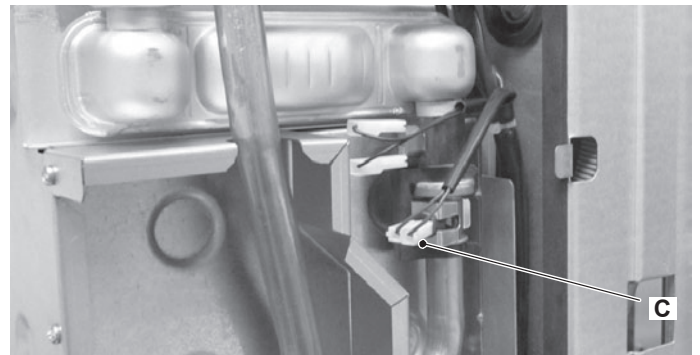
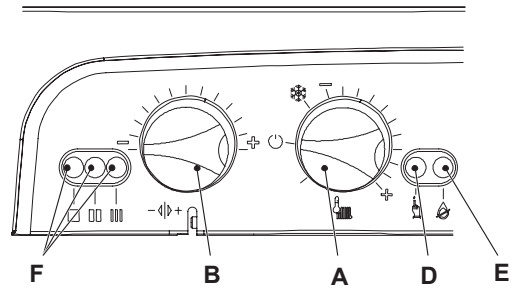

Figure 8.6
Figure 8.12
- 5 Disconnect the electrical connectors C of the c.h. temperature probe NTC in Figure 8.6.
- 7 Connect the electrical connectors C of the c.h. temperature probe NTC in Figure 8.6.
- 3 Position the function selector A as in Figure 8.12 and disconnect the c.h. temperature probe Figure 8.6.
- 4 Keep pressed the reset button D for about 10 seconds (Figure 8.12) until the lock-out signal lamp E blinks.